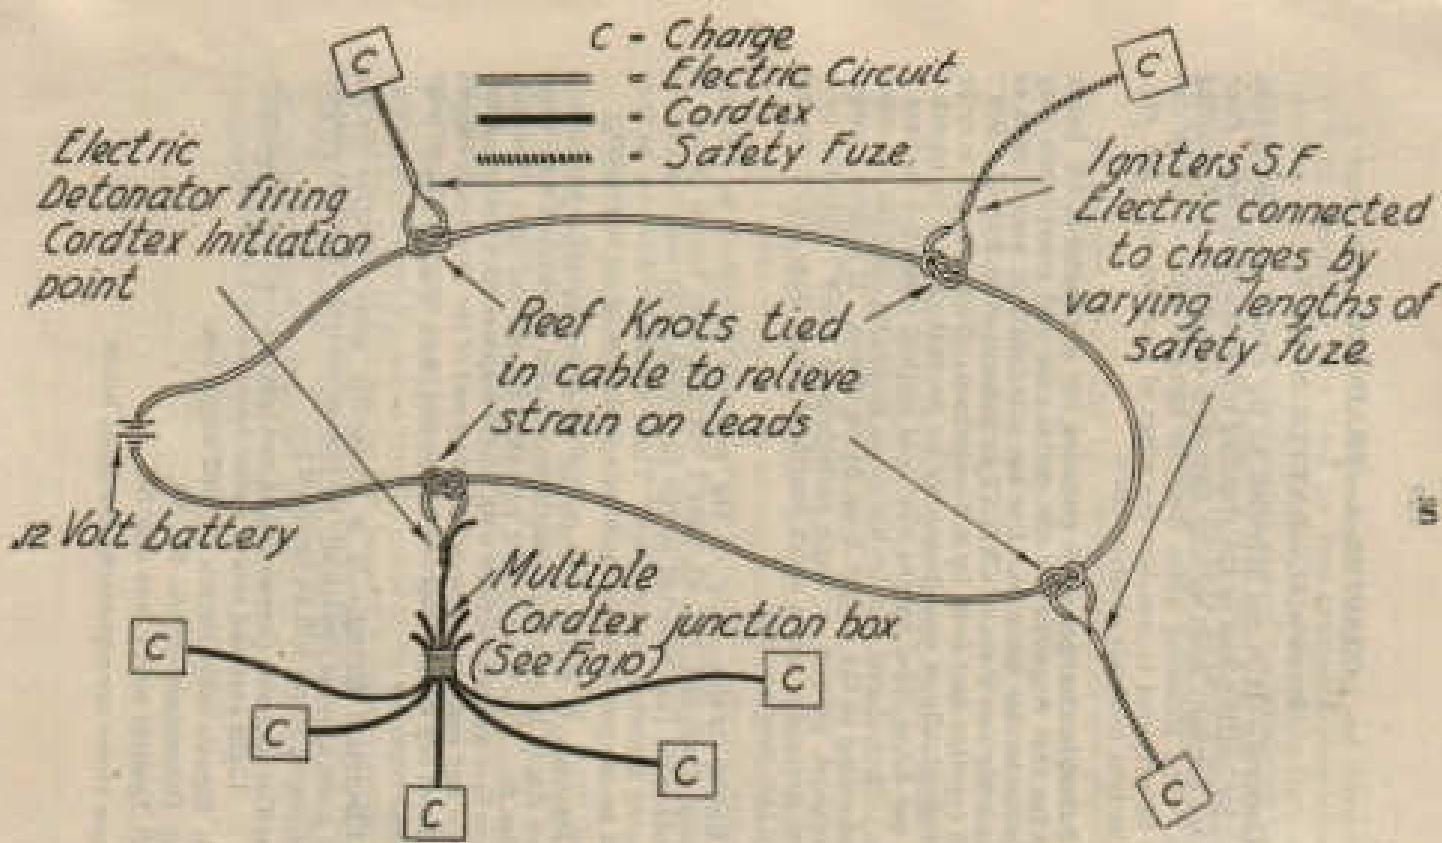

Fig 20. Diagrammatic layout of electrical circuit for battle noises.
6. Detonator electric No. 33.—This consists of a No. 17 detonator (see Sec 5) with an electric firing head on the top. When an electric current of sufficient strength is passed through the head a flash occurs which fires the detonator. A fully charged battery will produce sufficient current to fire a certain number of detonators connected in series with the battery through a given length of cable. The term "in series" means that the detonators are connected up by lengths of cable, the circuit starting at one terminal of the battery, passing through each detonator in turn and finishing at the other terminal (see Fig 20). Table 3 shows the number of No. 33 detonators or igniters which can be fired by standard 6- and 12-volt batteries through different lengths of cable, assuming batteries FULLY CHARGED.